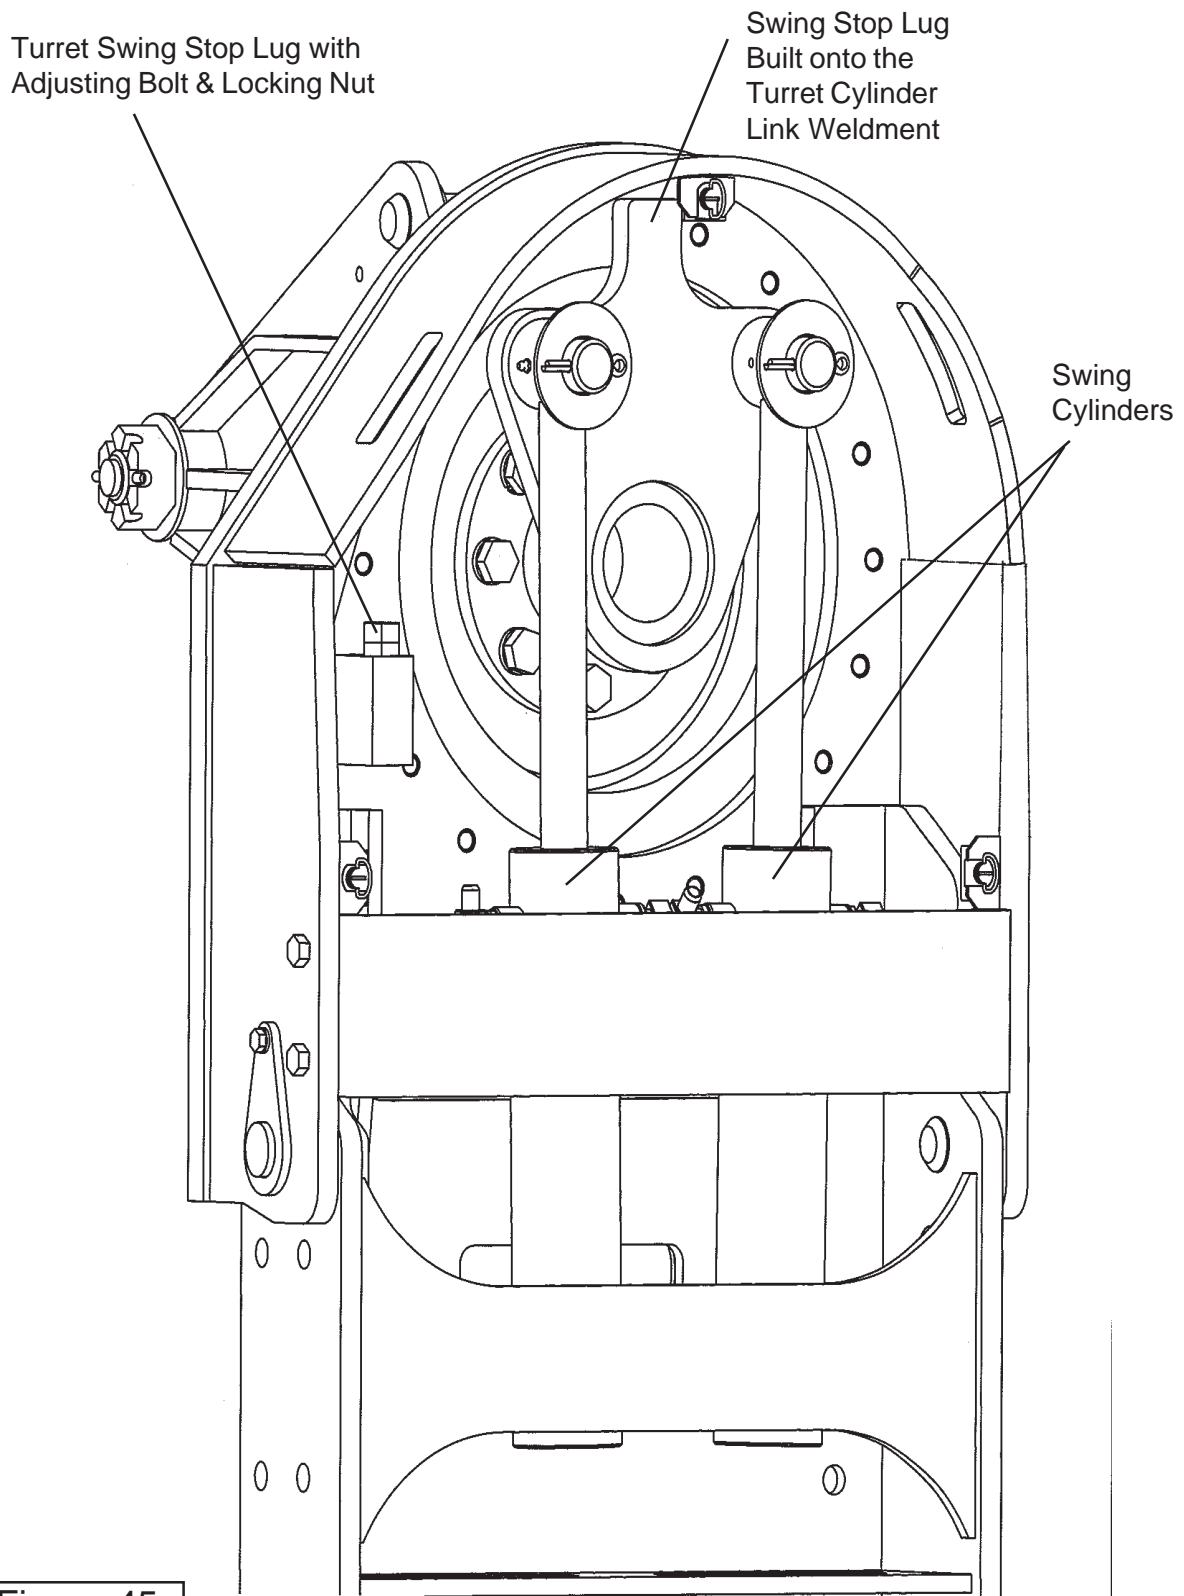

Figure 45
2. The Swing Stop Lug which is part of the Turret Cylinder Link Weldment (See Figure 45). On the side toward the rear there will be a lug with a bolt and locking nut in it (See Figure 45). Loosen the bolt and locking nut, turn the bolt outward.
4. Final Swing Stop Adjustment. Unscrew the stop bolt (See Figure 45) until the head is against the swing stop lug of the turret cylinder link weldment (See Figure 45). Hold the bolt so it won't turn tighten the locking nut down against the turret stop swing lug. Recheck to make certain the boom will not hit the cab of the tractor. It will stop at the turret stop lug when properly adjusted. This may have to be adjusted more than once, NEVER allow unit to be run if Boom will hit the cab, this will damage cab.